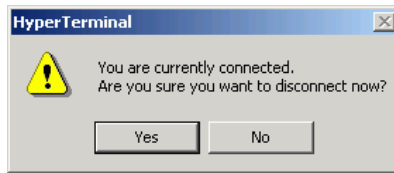

Figure 3-28 HyperTerminal Dialog Box
- l. Select *Exit* from the *File* pull-down menu to close the HyperTerminal application. A *HyperTerminal* dialog box displays (Figure 3-28 on page 3-64).